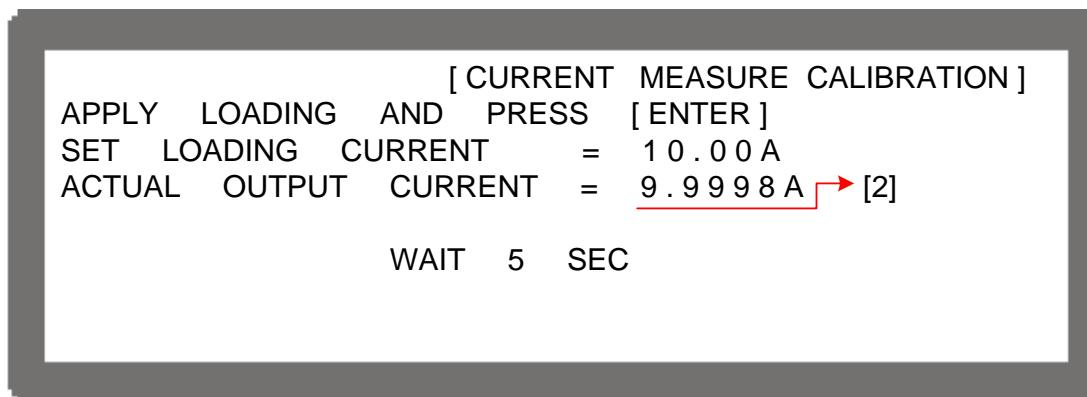

Figure 3-106
7. Next, press “” to do 10A calibration. The cursor will stop at position [2] as Figure 3-106 shows for setting the loading current of Electronic LOAD to 10.00A. Enter the current (4 digits after decimal point) read by Current Shunt (DVM) and press “” to confirm and wait for it to end. Use 2A and 10A for calibration, the system will calculate the calibration factor for the low current range.